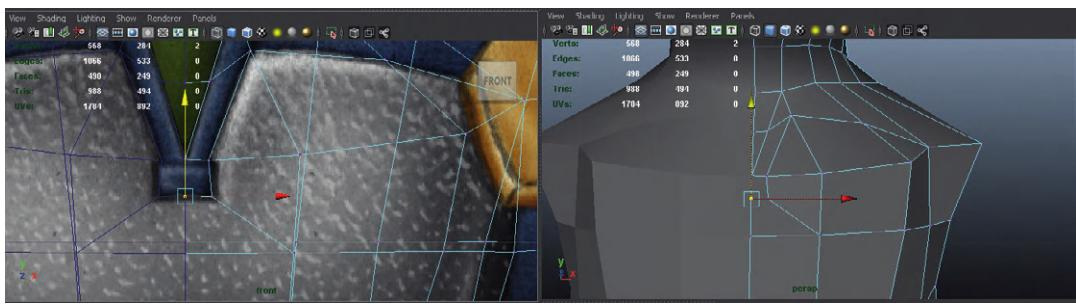

FIG 4.53 Adding new geometry to further define the shirt collar with the Interactive Split Tool.
Step 71: Add additional detail for the collar and chest plate. Do this with the Interactive Split Tool (Fig. 4.53).